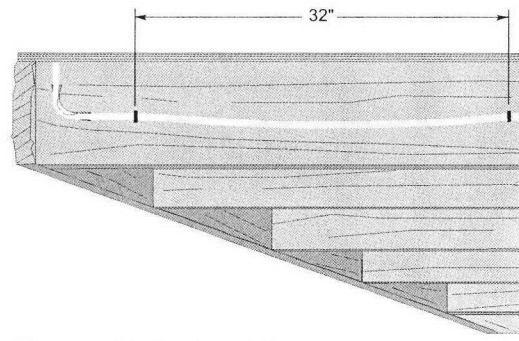

Figure 6-20: Horizontal runs
1. Along horizontal runs, install supports every 32". If horizontal runs are continuously supported, place the tubing supports at 6' intervals (see **Figure 6-20**).